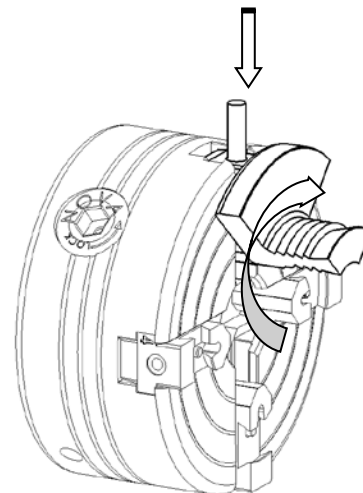

Figure 3
3. With the Lock Push Pin fully depressed in, position a desired jaw on the left side of a free Jaw Slide and slide the Jaw clockwise in a circular motion into place in the Jaw Slide. Remove the Pin holding the lock push pin in and ensure the jaw is securely locked in place. (Figure 3).
1. With the Lock Push Pin fully depressed in, slide the Jaw anti-clockwise in a circular motion Out of the Jaw Slide. Remove the Pin holding the lock push pin. (Figure 3).